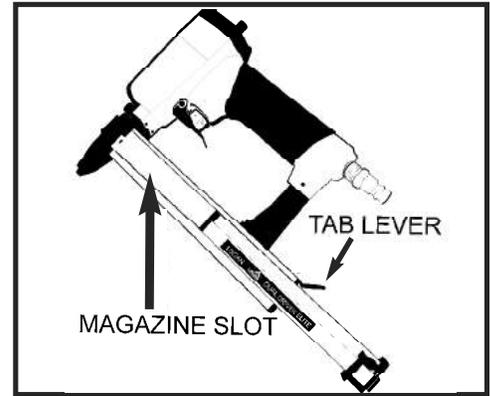

Fig 1
1. Use the metal tab lever at the rear of the magazine to release and open the magazine loading slot. (Fig 1)